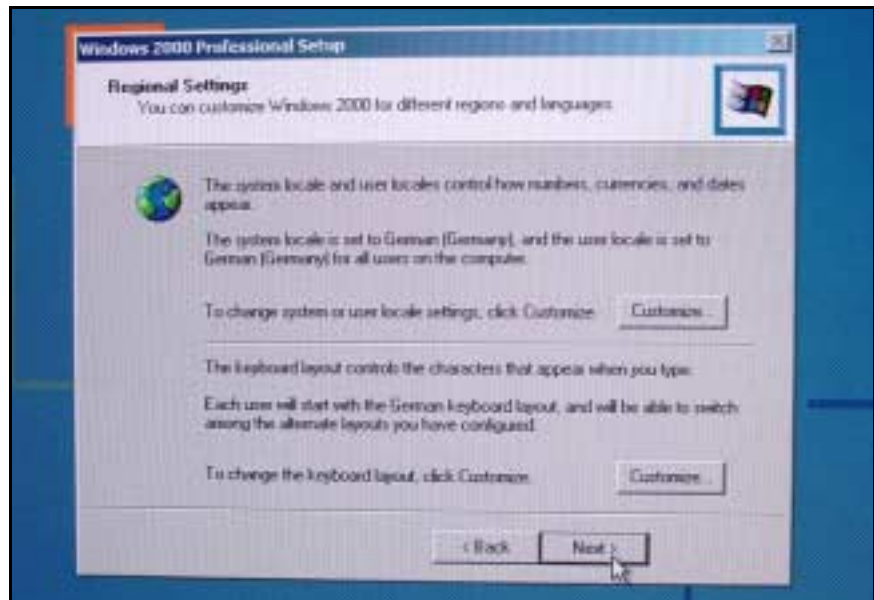

Figure 8-27 Windows 2000 Setup screen
- 17) At "Regional Settings Window" screen (see Figure 8-27) click on *Customize* and set System and Keyboard settings for local regional parameters, then click *Next*.